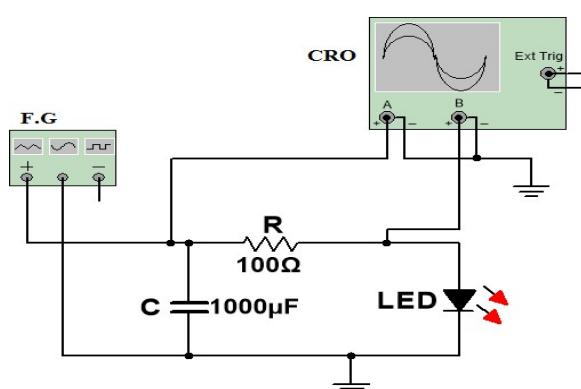

Figure 3.2 Schematic to Analyze LEDs
- Connect the circuit as shown in the **Figure 3.2**.